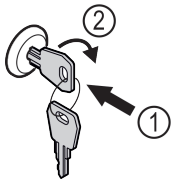

Fig. 114 Example illustration
- ▶ Insert key Fig. 114 (1).
- ▶ Turn key clockwise by 90° Fig. 114 (2).